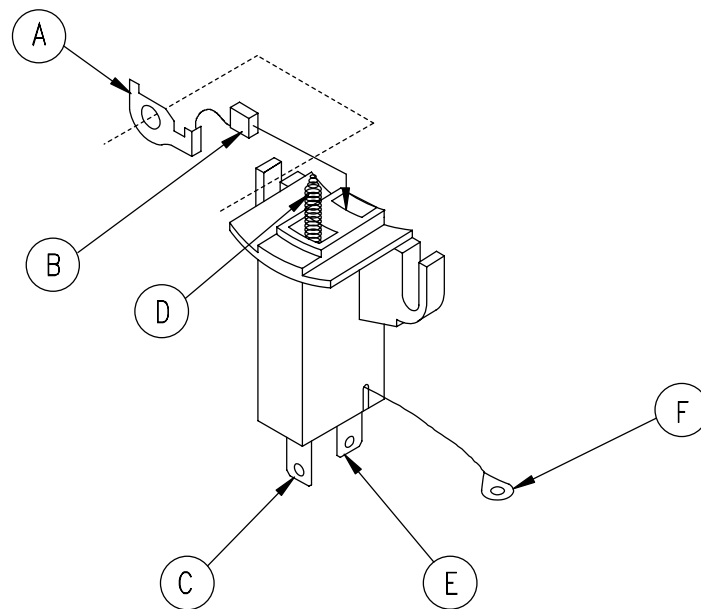

Figure 5-44. Brush Assembly Test
- (2) Using multimeter set for ohms, check for continuity between point A and brush B, between terminal C and brush spring D, and between terminal E and connector F (Figure 5-44). Replace brush or brush assembly as necessary if indications are other than stated.